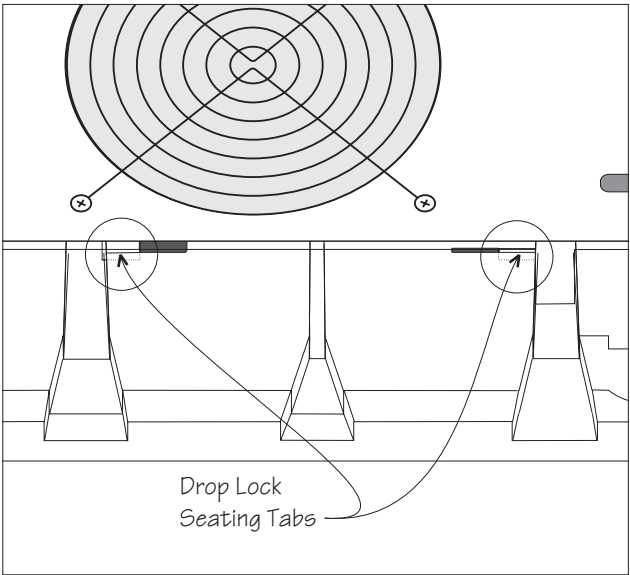

Fig 8-8 Drop Lock Seating Tabs
3. Note the two drop lock seating tabs at the front of the power module. See figure 8-8. These drop locks hold the module firmly in the Power Array frame. When removing a failed power module, lift the front of the module slightly to release the drop lock seating tabs, and then pull the module from the bay.